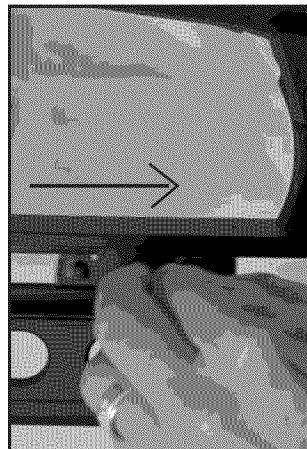

Figure 4—Pull Back the Pusher
- Insert tip of thumb into thumb hold of springloaded nail strip pusher and draw pusher back until it locks in place at rear of magazine. (See Figure 4)